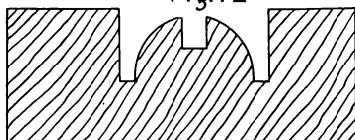

Fig. 74
*Fig. 74* is worked with a plow and a beading cutter. The groove should be made first, finishing with the bead. This insures sharp corners at each side of the groove.